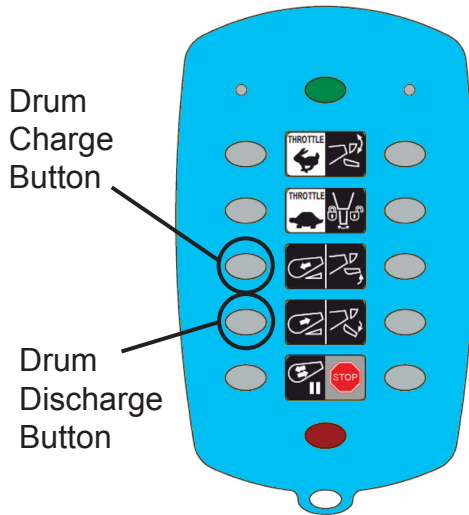

Figure 35
3. Press the appropriate button, either Charge or Discharge (Figure 35), on the Wireless Transmitter.